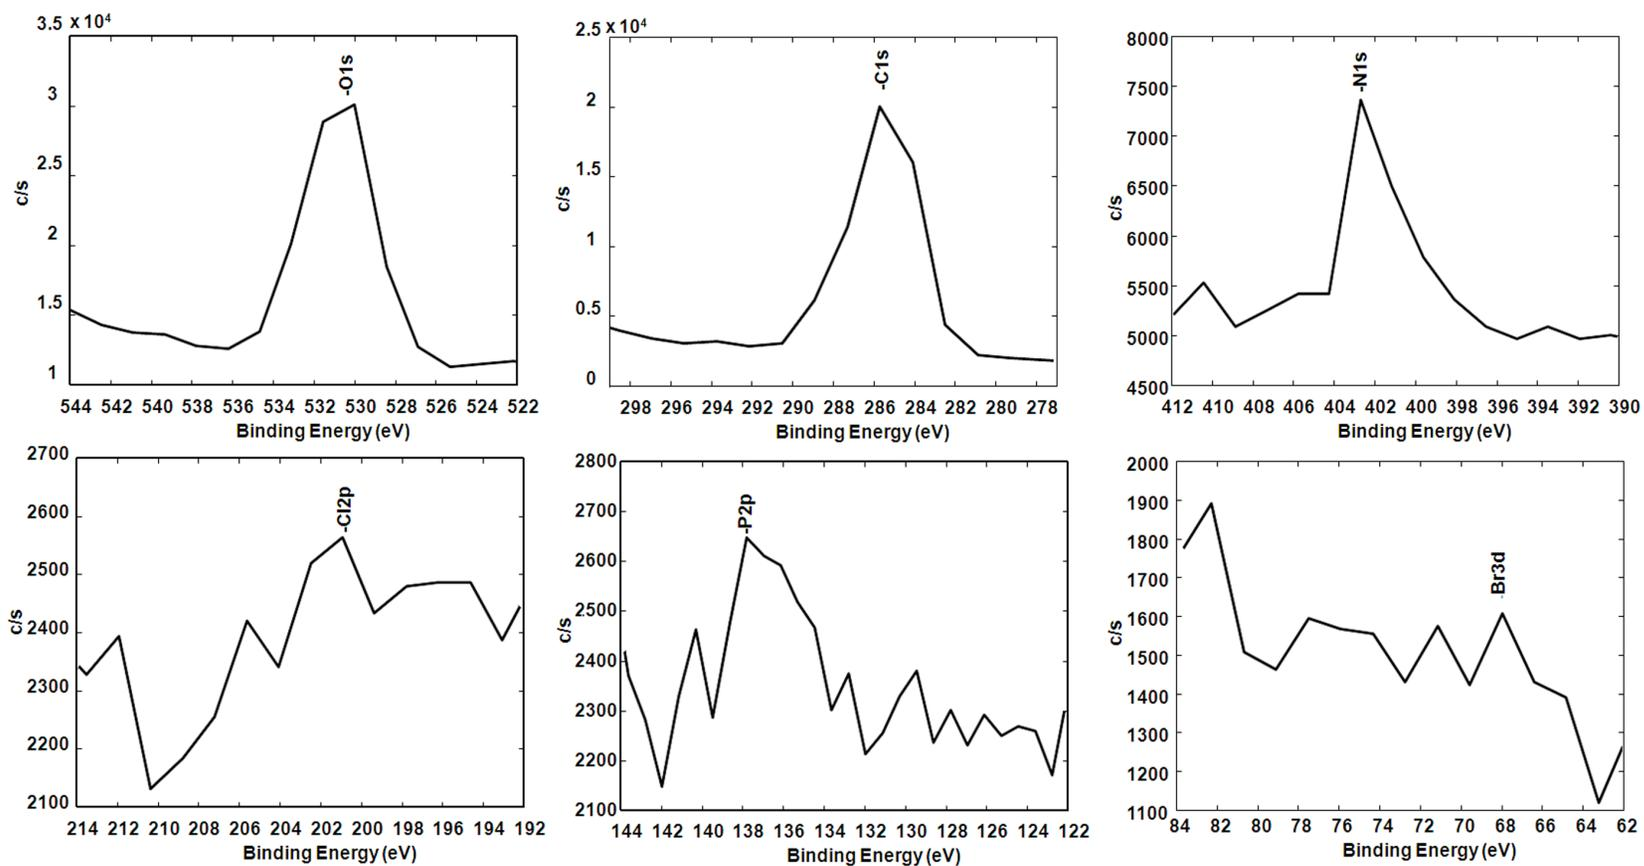

Fig. S9 XPS spectra of O1s, C1s, N1s, Cl2p, P2p, and Br3d regions of QPDMAEMA-grafted filter paper after DNA adsorption.
- 14 **Fig. S9** XPS spectra of O1s, C1s, N1s, Cl2p, P2p, and Br3d regions of QPDMAEMA-grafted filter paper after DNA adsorption.